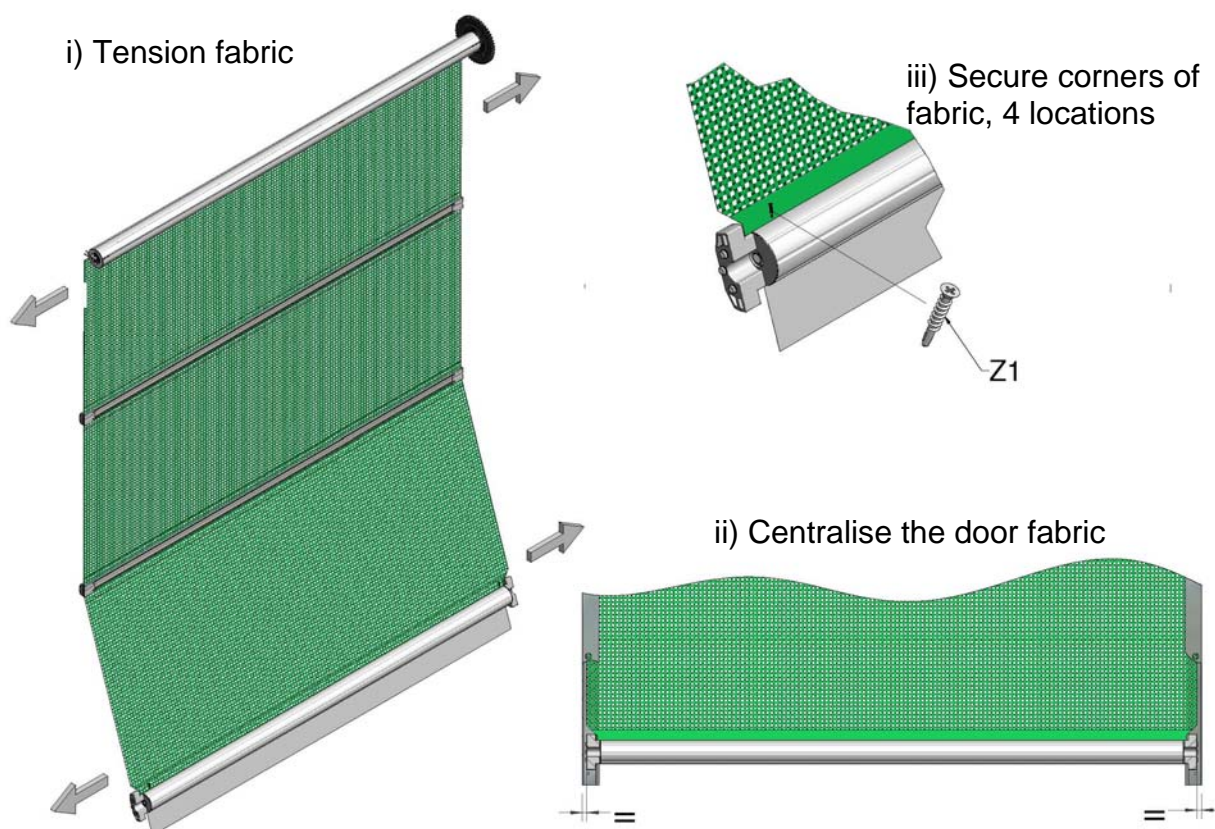

Figure 17, Centralising Screen
16. Lower your door fully and secure the fabric panel to the top and bottom tube with the self-drilling screws. It is important to tension sheet sideways before fixing to remove creases (Figure 17). Insert the screws into the top tube by a maximum of 35mm in from the edge to prevent damage to the spring. Insert one end of the bottom tube into the guide rail, lift and insert the other end into the opposite guide rail. Check the operation of the locking catches; it may be necessary to trim a small amount of fabric above the tube to allow the swinging arm to fully close.